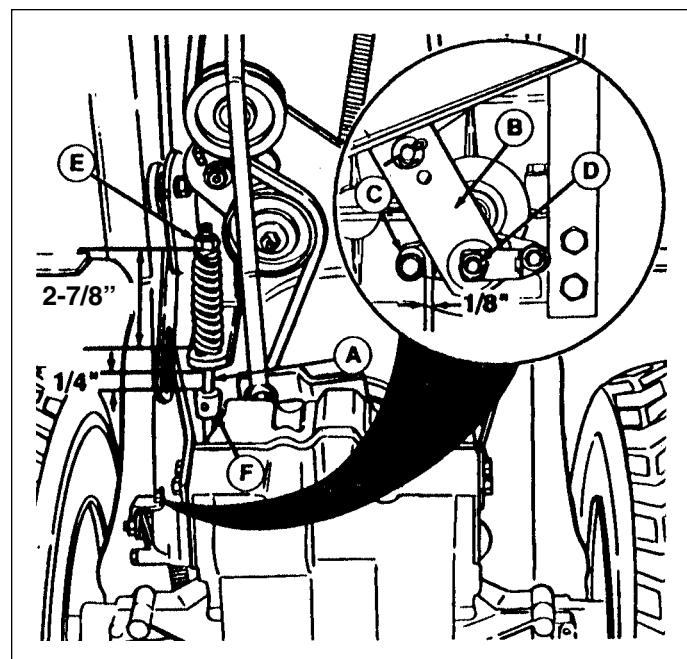

Figure 11. Brake Adjustment – Gear Model
2. See Figure 11. Move the brake rod (A) back and forth to be sure there is no tension on the brake pads.
3. Push the cam lever (B) forward (toward front of tractor) to take out any slack. The gap between lever (B) and stop (C) should be 1/8" (0.3mm). Use a feeler gauge to measure. If adjustment is required, proceed to step 4.
4. Loosen or tighten the adjustment nut (D) to obtain the correct dimension.
6. The brake rod spring should measure 2-7/8" when compressed. Turn the adjustment nut (E) as necessary to obtain correct spring length.
7. With spring compressed to 2-7/8", adjust set collar (F) 1/4" from brake arm assembly (if present).